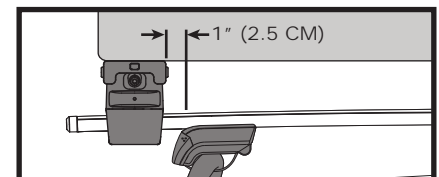

fig. 2
- Do not position mounting hardware more than 1" outside of Tower (see figure 2).